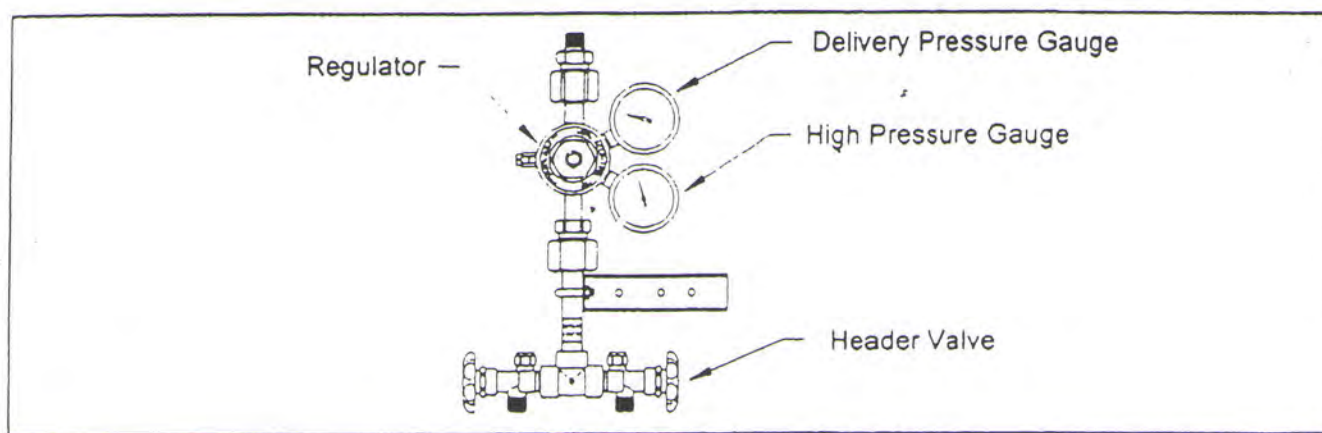

Figure 15
1. S-L-O-W-L-Y open the cylinder valve (turn counter-clockwise to open). The high pressure gauge will show the pressure of the cylinder. (Figure 15)